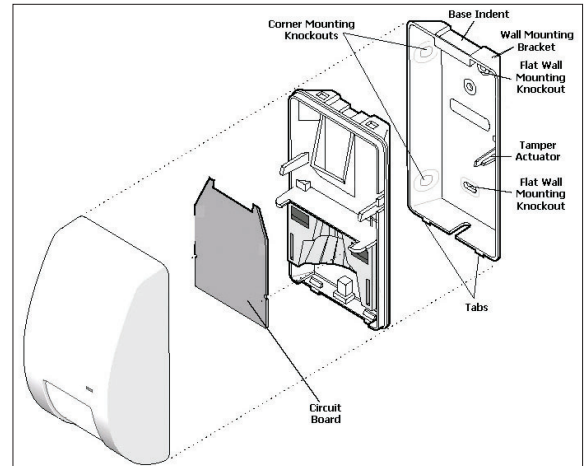

Figure 1: 1125 PIR Exploded View
1. Separate the PIR unit from the mounting bracket. Refer to Figure 1 for details.